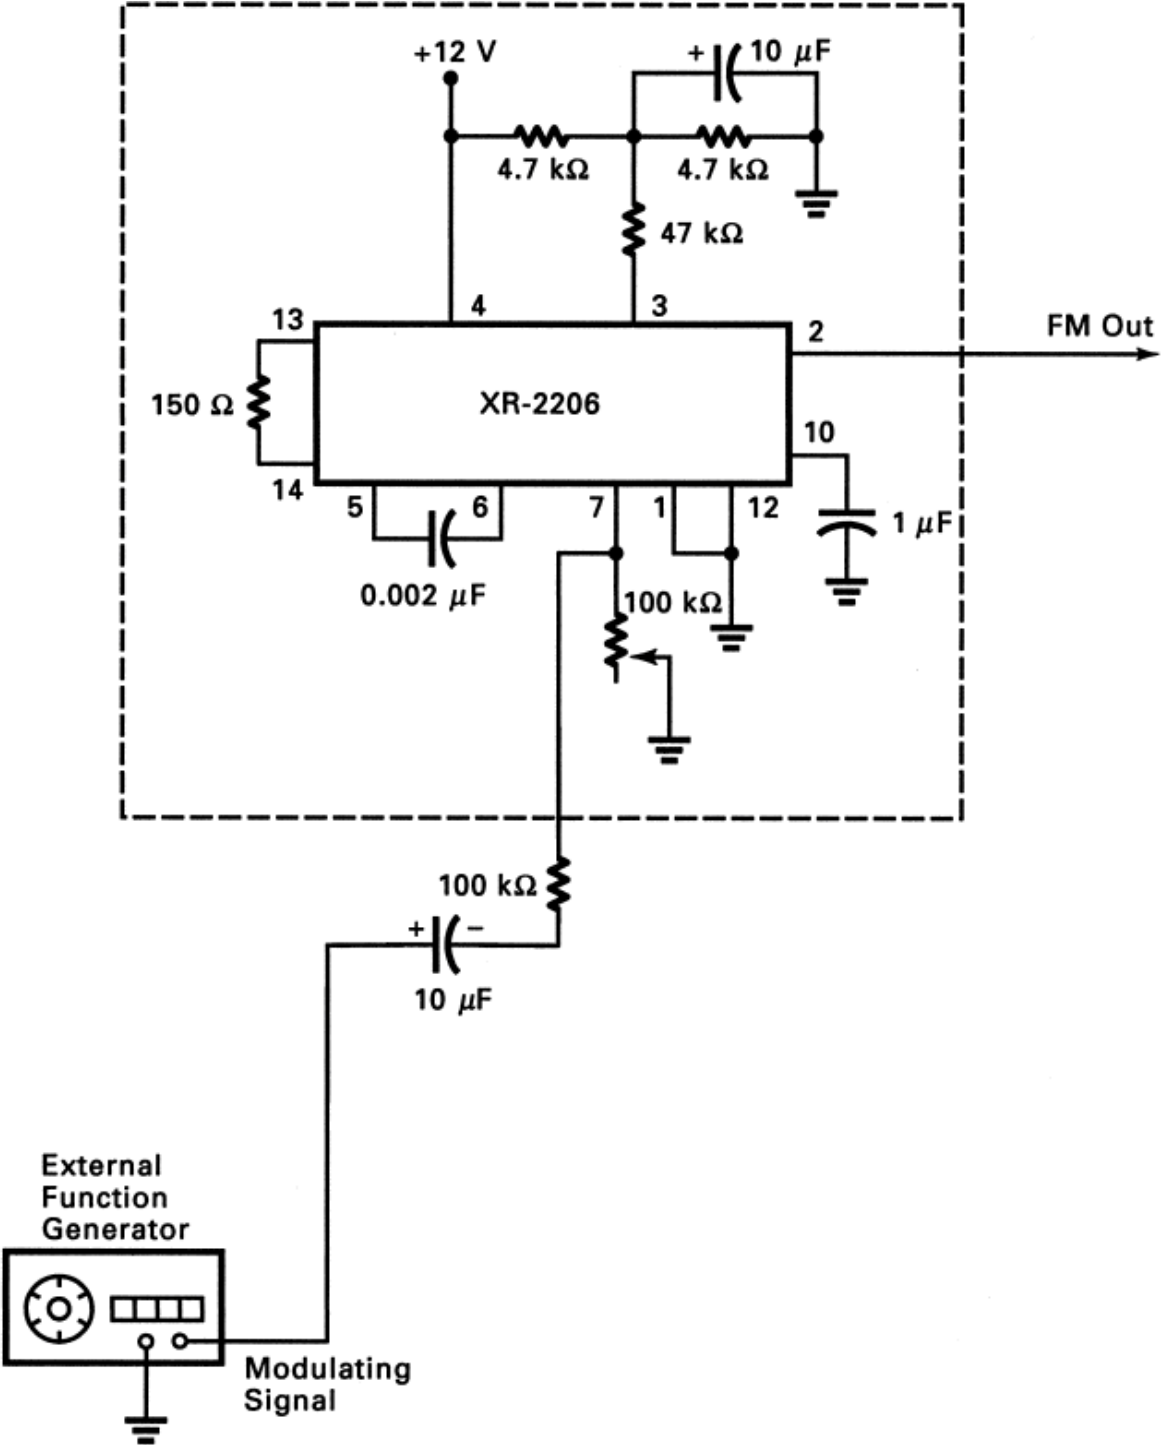

Fig. 5-1 Frequency modulation of the 2206.
1. The circuit for this experiment is shown in Fig. 5-1. This is the same 2206 function generator you have used previously, but note that you will add a 10- μ F capacitor and a 100-k Ω resistor to pin 7. To the capacitor you will connect an external function generator to serve as the modulating signal.